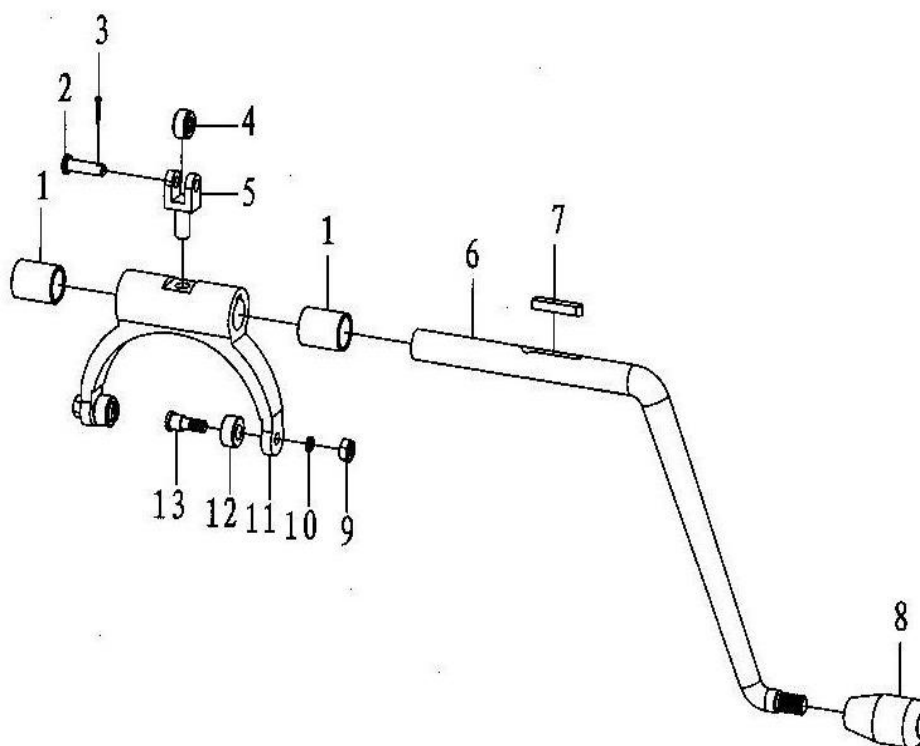

Fig.8-5
8.5 Shifting mechanism assembly and parts list (Fig.8-5, Table 8-5)